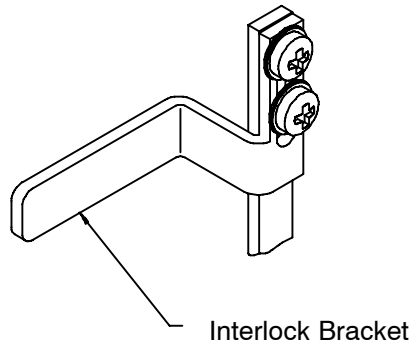
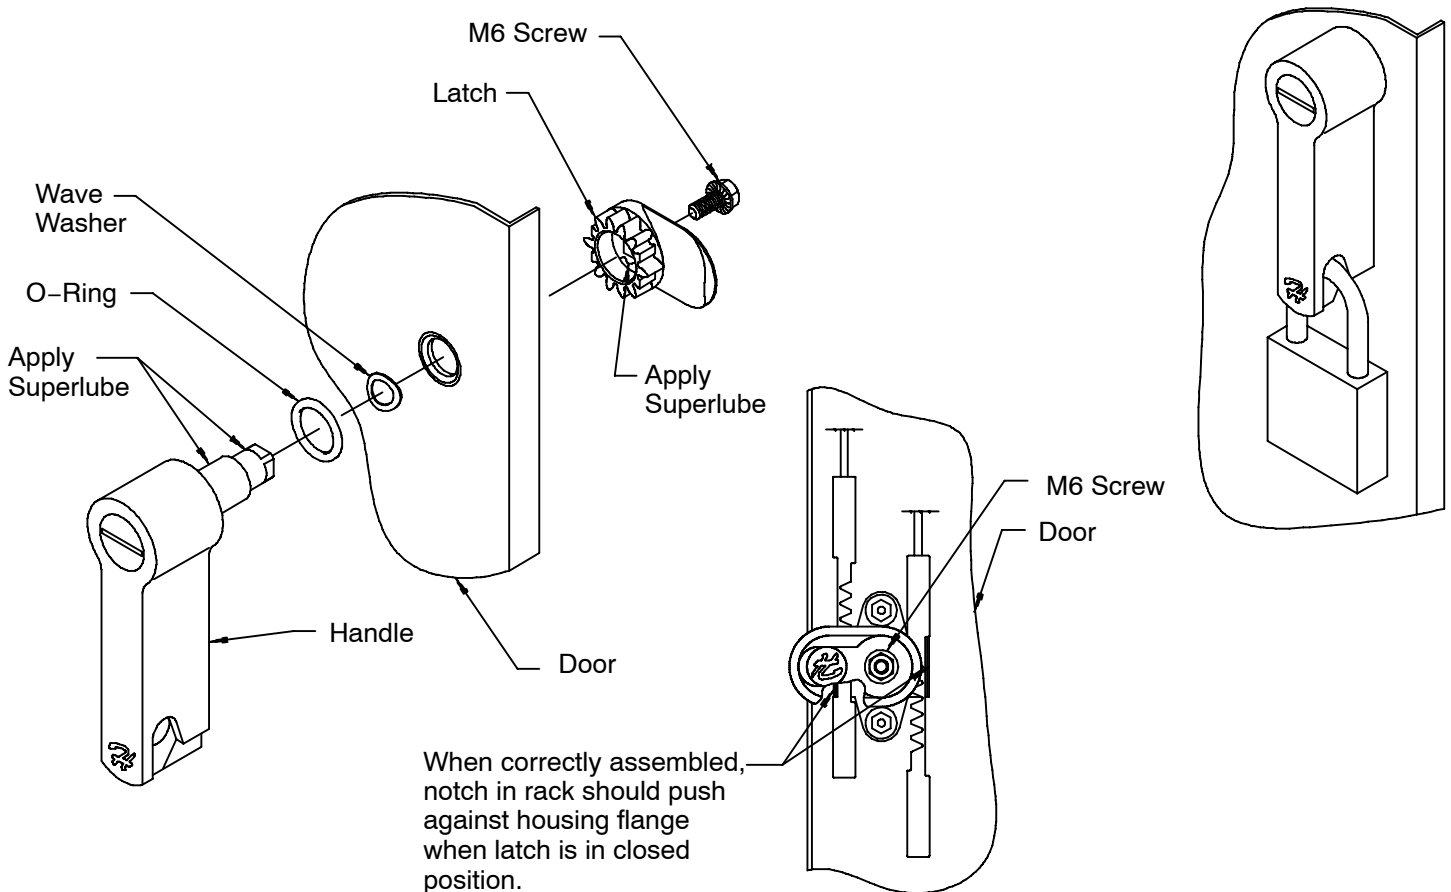

Figure 1
Figure 2
Step 4 – Hoffman CONCEPT® disconnect enclosures have door hardware already installed on inside of the enclosure door. See figure 2 to install CONCEPT® padlocking door handle on the outside of the door. Install interlock bracket on end of latch rod. See figure 1. Adjust interlock bracket (see figure 1) up or down, if necessary, to ensure that disconnect operating handle can be moved to “ON” position only when door is fully latched. Be certain door cannot be opened with handle in “ON” position (without defeating interlock on disconnect handle).
Step 3 – Assemble handle to latch housing as shown in figure 2.
- To install padlock, push button upward on bottom of handle to allow the padlock shaft to pass through the handle as shown in figure 2.